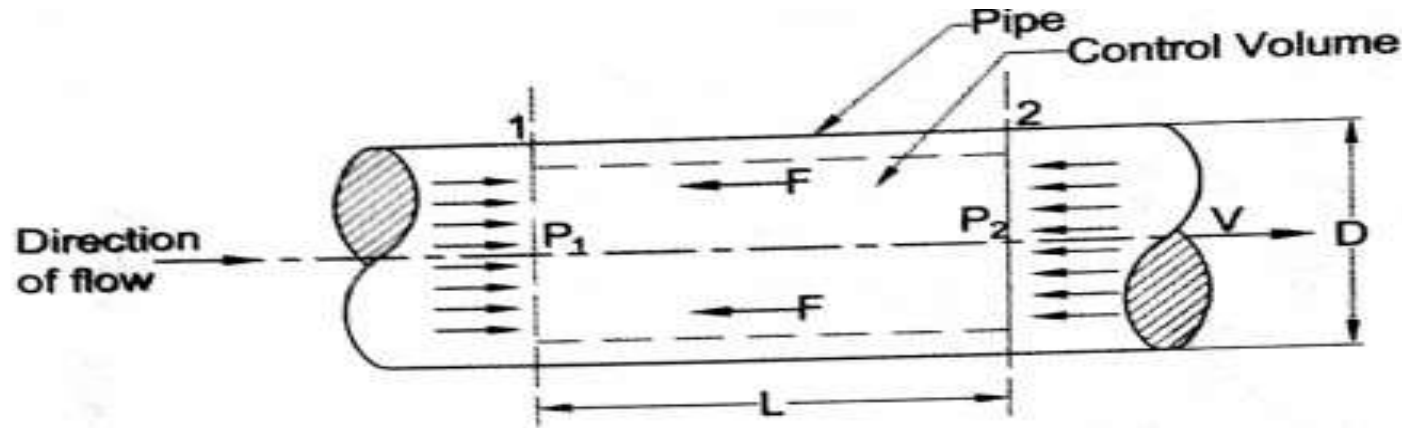

Fig.12.4 Loss of head in a pipe
Figure 12.4 shows a horizontal pipe having steady flow. Consider a control volume enclosed between sections (1) and (2).